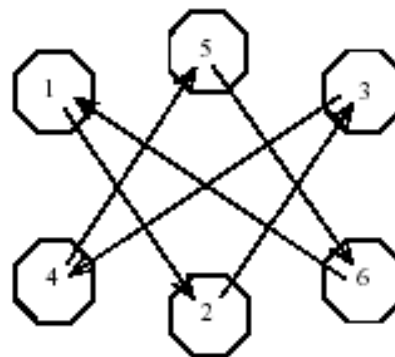

Figure 1
2. Lay Aft Hub-Half on flat surface. Install blades in hub’s blade sockets. Install Fwd Hub-Half clamping the blades between the hub halves. Install the blade clamping hardware ($\frac{1}{4}$ ”-28 bolts, AN960-416 washers, and $\frac{1}{4}$ ”-28 nuts) in the hub to secure hub halves and blades. Carefully install the propeller assembly on engine flange. Use the supplied $\frac{3}{8}$ ” bolts and wedge-lock washers to secure the propeller onto the flange. Torque the $\frac{3}{8}$ ” bolts to 200 in-lbs using a star pattern similar to that shown on Figure 1, and $\frac{1}{4}$ ”-28 bolts to a torque of 98 in-lbs.